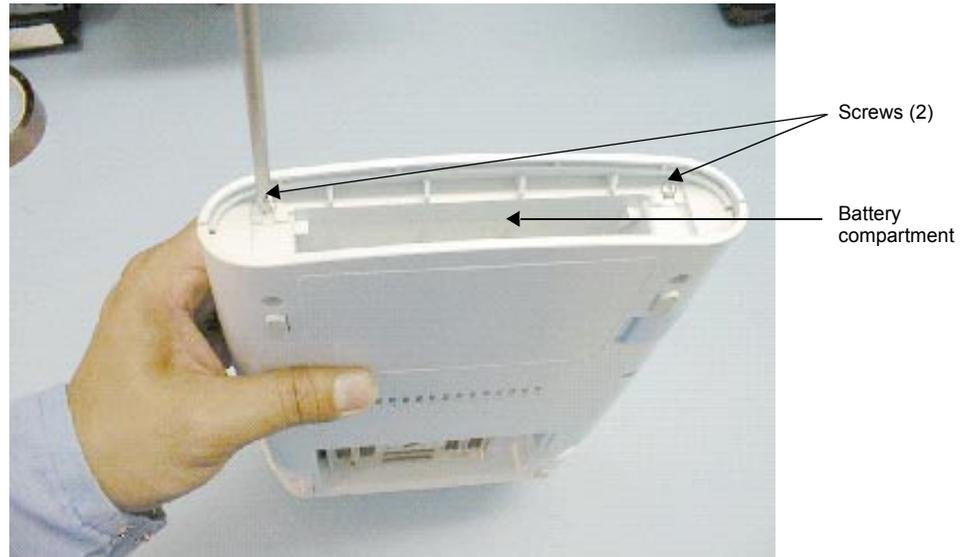

Figure 7.1 Removing the Control Panel Subassembly
- 2 Remove the two screws in the battery compartment with a #1 Phillips screwdriver; this releases the Control Panel Subassembly from the top housing (Figure 7.1).